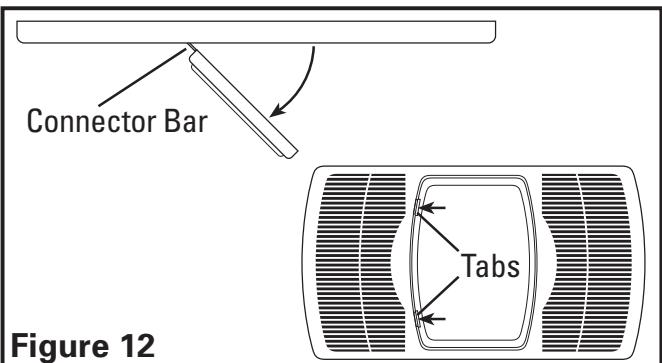

Figure 12
- Remove grill from carton and open light lens area by pushing in on the two tabs of the light lens and pulling outward from lens. The lens will swing open on the connector bars. DO NOT remove the lens from the grill (Figure 12).